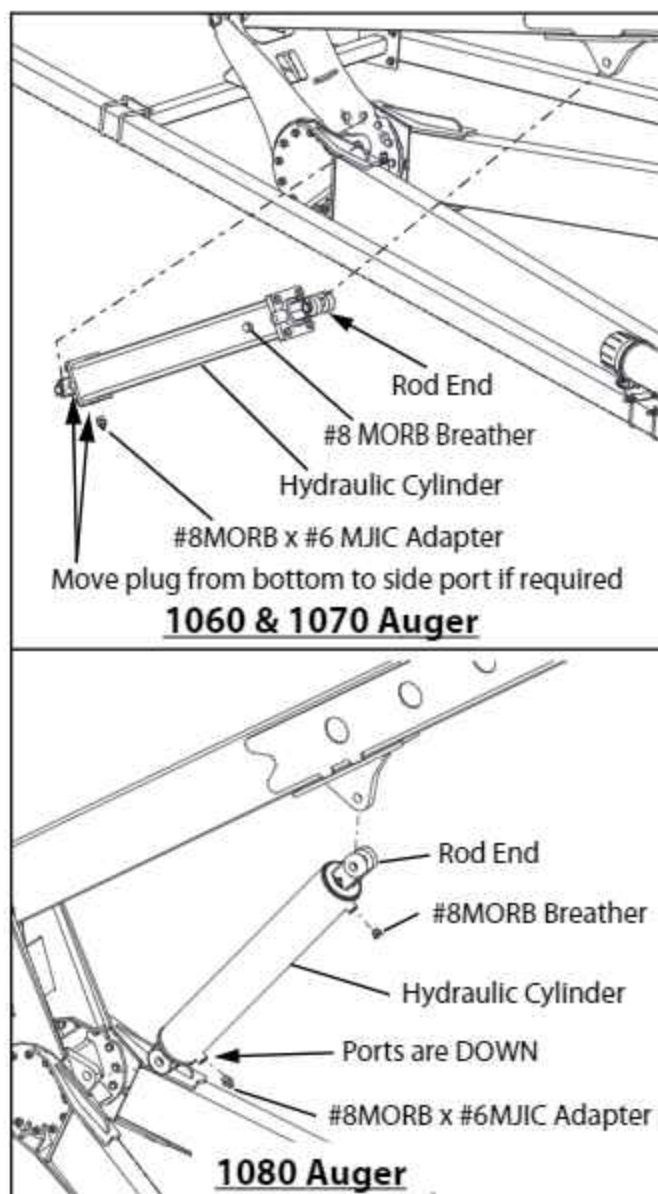

FIG. 3-25. Hydraulic Cylinder Installation
1. Install the #8MORB x #6MJIC fitting in the base end port of the hydraulic cylinder. On 1060 & 1070, move the port plug from the bottom to the side port, if required. See Fig. 3-25.
3. Mount the hydraulic cylinder between the Lift Cross and the Ladder with the rod end connected to the Ladder. See Fig. 3-25. It may be necessary to lift the auger tube slightly to make room for the cylinder. On the 1060 & 1070, make sure the breather port is on the right side and the base end port is down. On the 1080, make sure both ports are down.